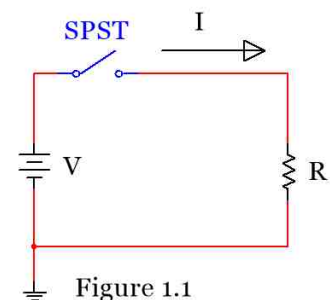

Figure 1.1
*Example 1.1) If a Single-Pole, Single-Throw (SPST) switch is flipped in the circuit in Figure 1.1 causing a voltage difference that results in a current of 2 amps, determine the number of Coulombs and the number of electrons that travel through the circuit after 4.3 minutes have elapsed.*
In order to get a larger resistance value, using a resistor would be a good idea. A resistor is a component that is manufactured to have a set amount of resistance. The resistor symbol is  $\text{---}\text{||}\text{---}$  as shown in Figure 1.1. A common type of resistor used in the project that accompanies this book are Carbon-Film Resistors with a 4-band color code.